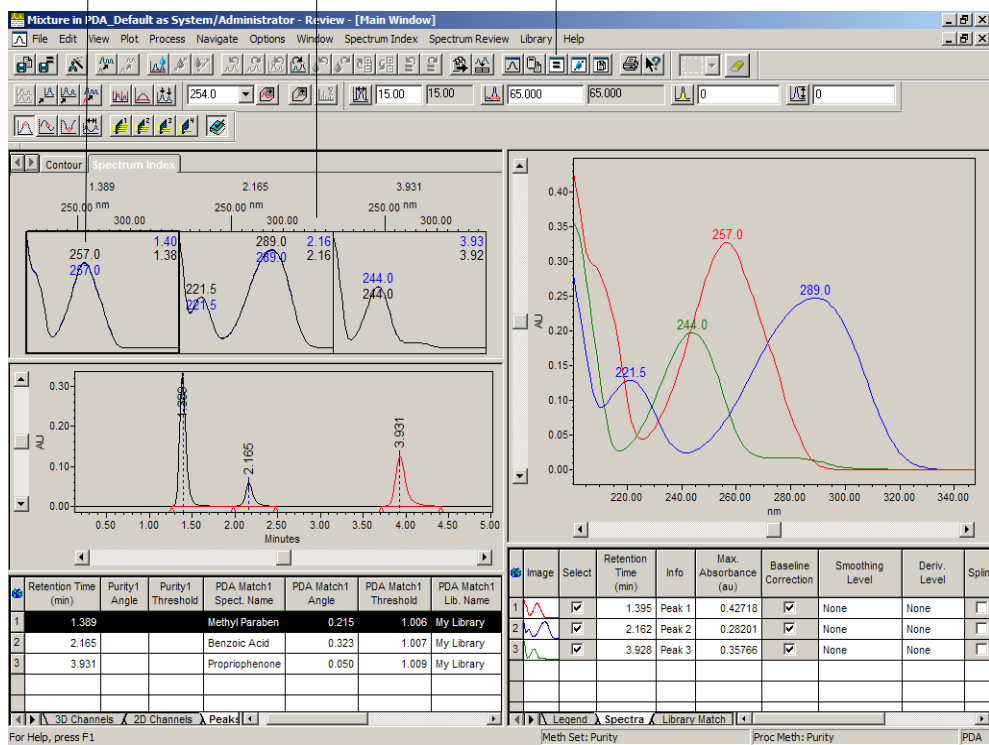

Figure 4-31 Overlaid Library Match Spectra
2. Click  (Library Match) to overlay the library match spectrum with the peak spectrum in the Spectrum Index plot (Figure 4-31).